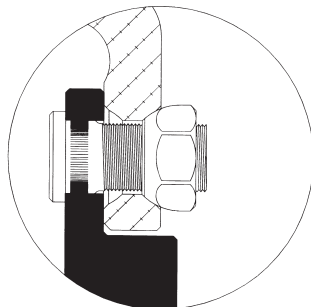

Figure 15
- ◆ For 1½" -16 studs, use standard heavy truck steel disc wheel front or outer nuts. (See Figure 15.) If you are making a changeover from steel wheels, longer studs may be necessary to ensure that the stud is at least flush or extends through the nut.
- ◆ The outer cap nuts used on aluminum wheels are the same as shown in Figure 15 on page 46 (11/8" - 16 thread).